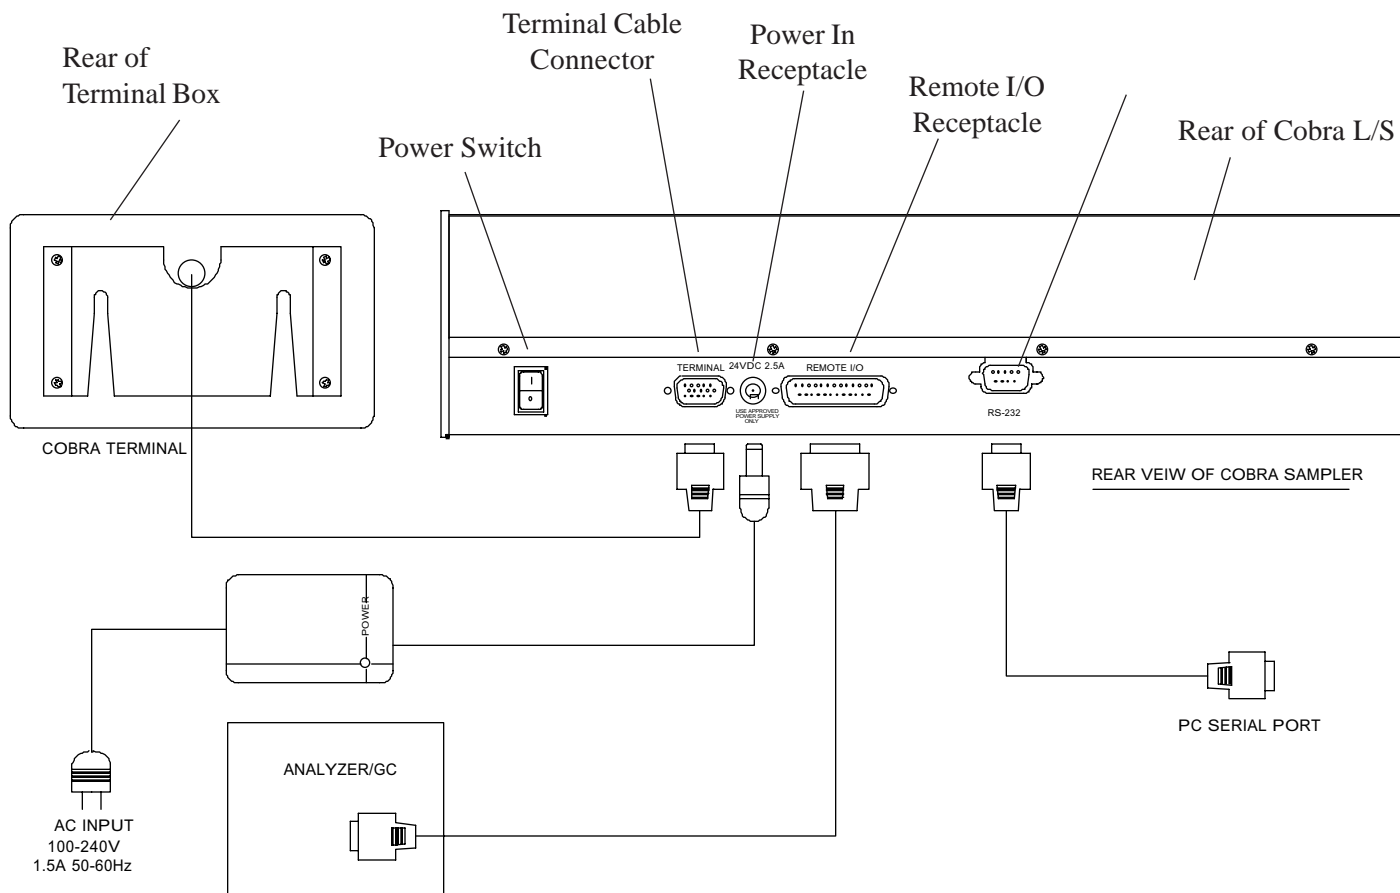

Figure 2.0
4. Install the cable from the Display/Keypad Terminal box to the rear of the Cobra L/S, see Figure 2.0.
Figure 2.0 shows the complete installation of cables to the GC and for RS 232 remote control. **Be certain all cable connections are made before the power to the Cobra L/S is turned on.**